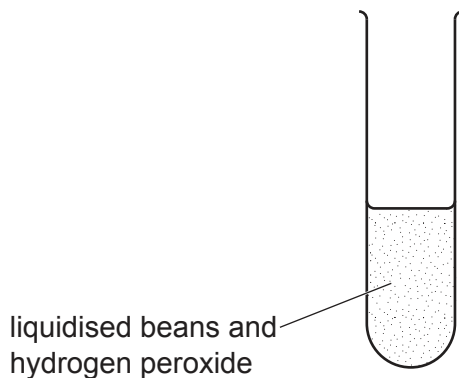

Fig. 1.1
- (f) (i) Fig. 1.1 shows a test-tube containing liquidised beans and hydrogen peroxide solution.
Complete Fig. 1.1 to show the assembled apparatus used to collect and measure the **volume** of oxygen gas produced.